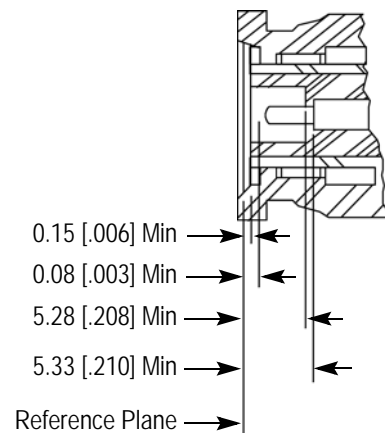

Figure 5
8. Adherence to assembly procedure should yield tolerances shown in Figure 5.